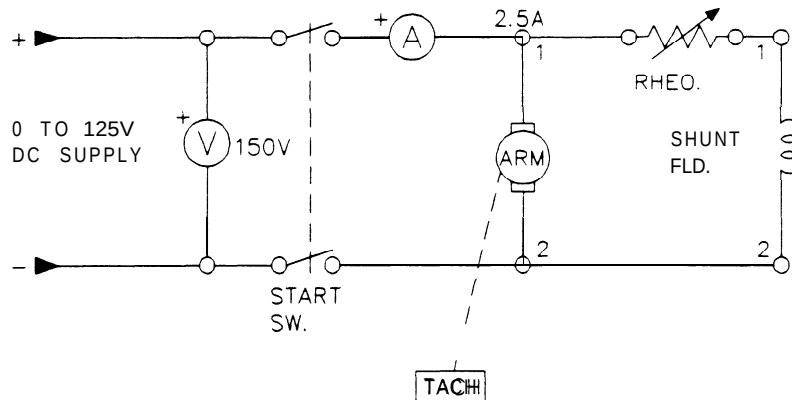

Figure 6-1
- step 2. Connect the DC machine as a shunt motor as shown in Figure 6-1.